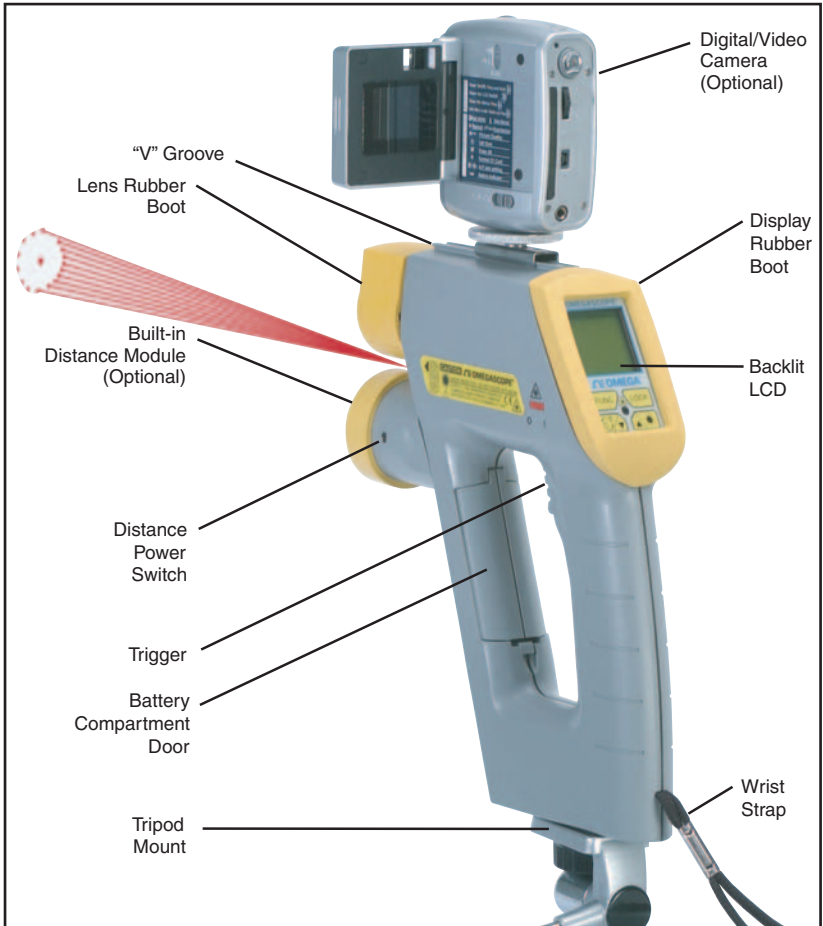

Figure 1-1. OS530E/OS520E Series Handheld Infrared Thermometer Front View
- 1a. (Without the Laser Sighting) - Aim the thermometer at the target to be measured. Use the "V" groove (shown in Figure 1-1) on top of the thermometer to align the target to the thermometer's field of view. Look down the "V" groove with one eye only, in order to guarantee proper sighting. Pull and hold the trigger.